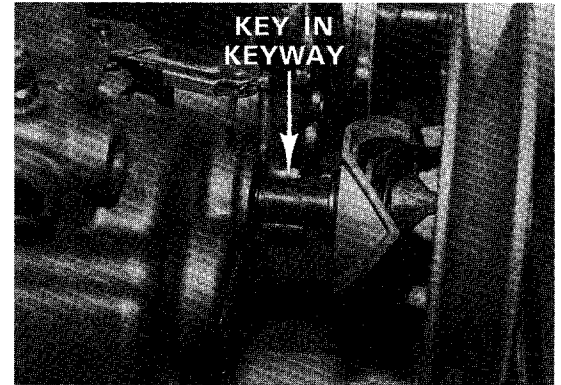

Figure 9-18
5. Retain key (12) in keyway (**Figure 9-18**).